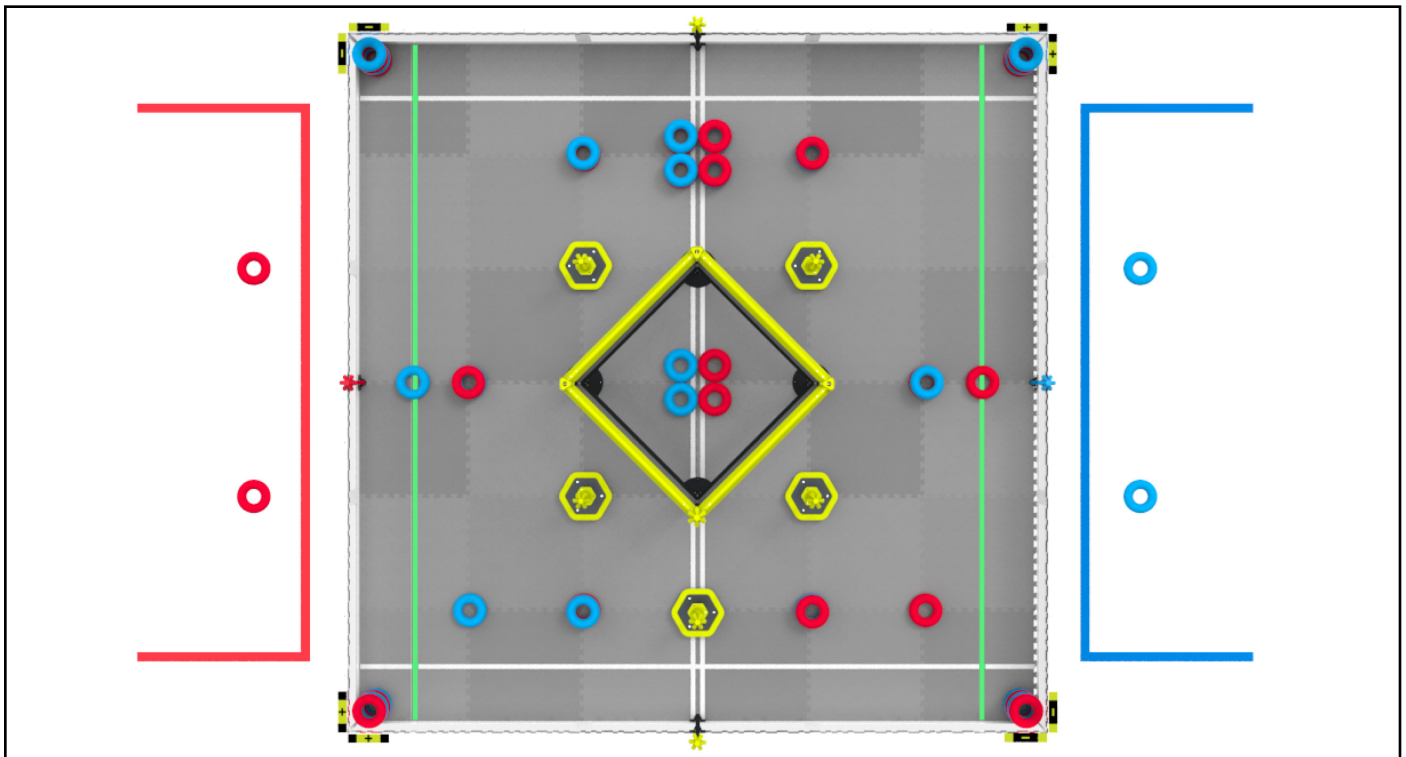

Figure SG1-1: An overhead view of the Field, with the Starting Lines highlighted green.
- Contacting / "breaking the plane" of their *Alliance's Starting Line*. See Figure SG1-1.
- Not contacting any *Scoring Objects* other than a maximum of one (1) preload. See rule <SG5>.